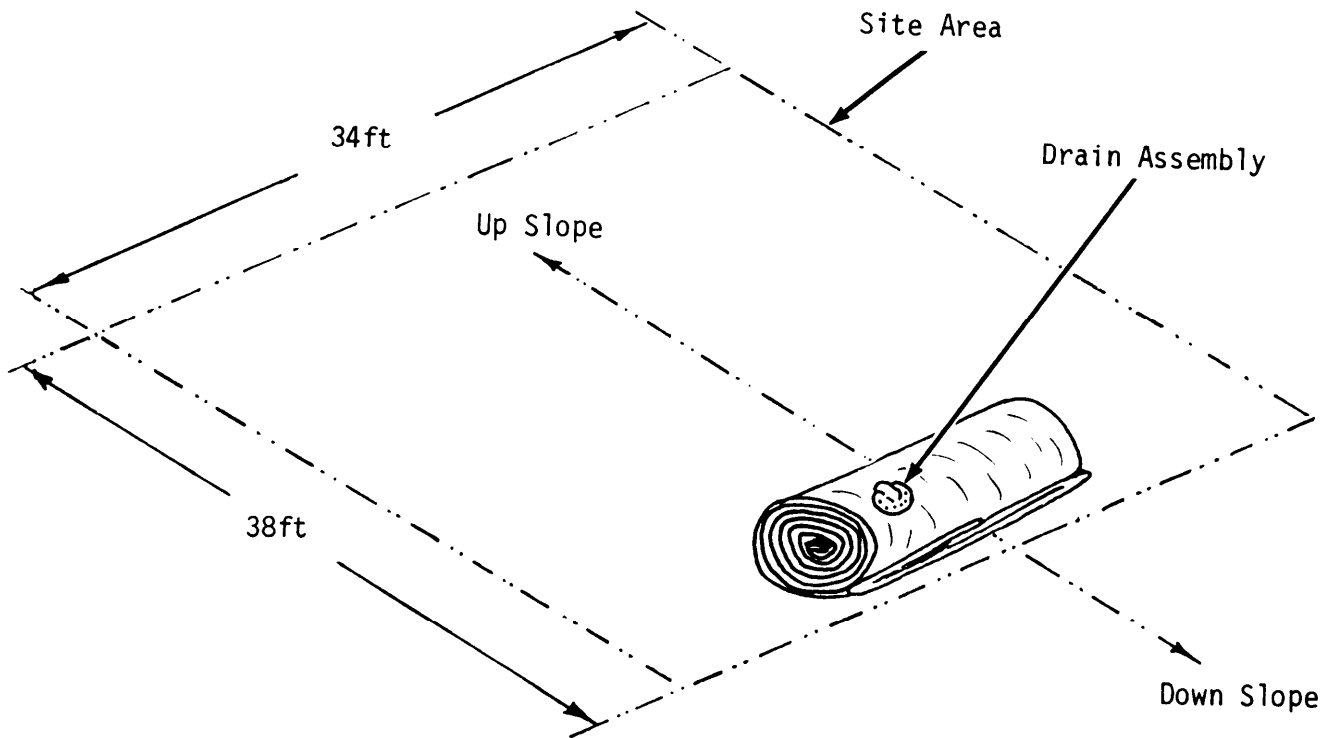

Figure 2-1. Tank Rolled
- b. Position tank in the center of the lower end (down slope) of the deployment site (Figure 2-1).